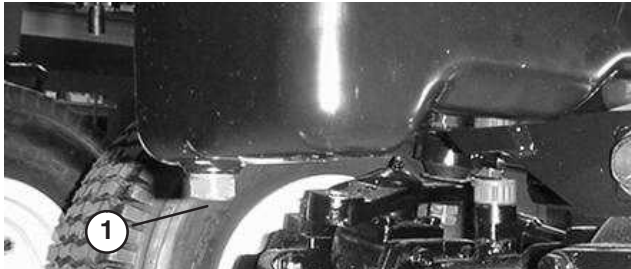

Figure 31
2. Open the hood. Set drain pan under the oil pan and in line with drain plug (Fig. 31).